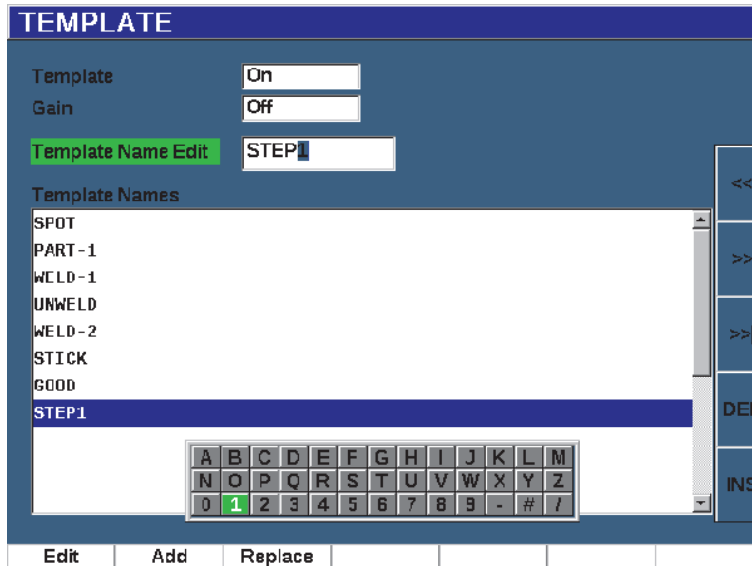

Figure 11-48 Template setup page
2. Press **Setup** (P7 key) to display the Template setup page (see Figure 11-48 on page 305).